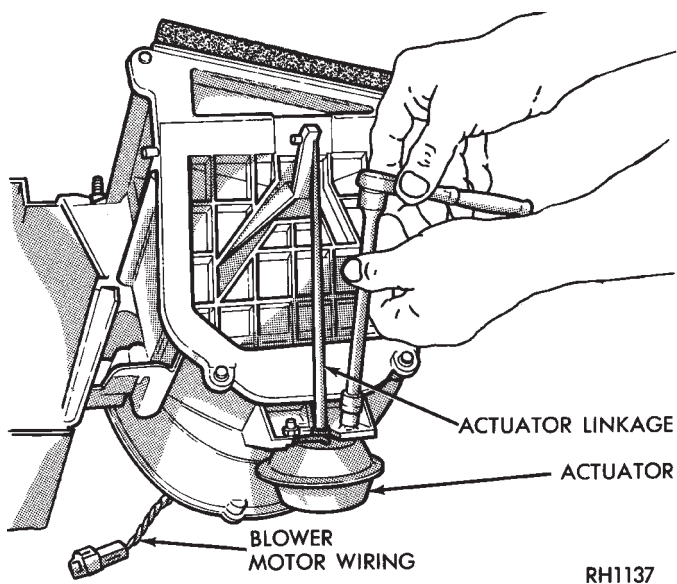

Fig. 3 Removing or Installing Fresh/Recirc Vacuum Actuator
(1) Remove heater-A/C control panel. Refer to Switch and Panel Component Service in Group 8E, Instrument Panel.
(2) Remove console assembly. Refer to Group 8E, Instrument Panel.
(3) Remove instrument panel lower steering column cover. Refer to Group 8E, Instrument Panel.
(4) Remove the right lower instrument panel/glove box door assembly. This assembly is clipped to the upper instrument panel at the right upper side.
(5) Remove vacuum lines from actuator.
(6) Loosen (do not remove) the two actuator attaching nuts (Fig. 3).